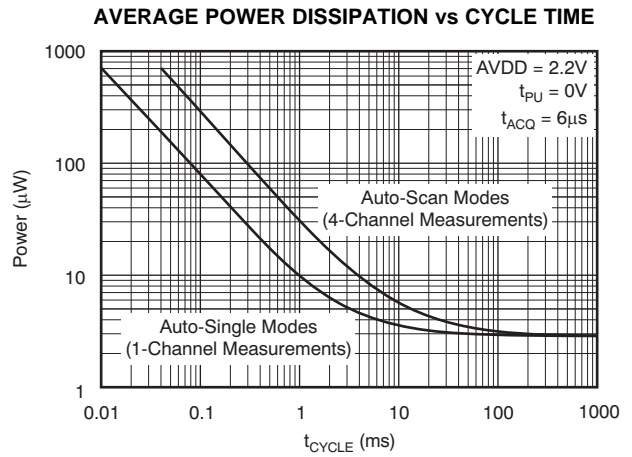
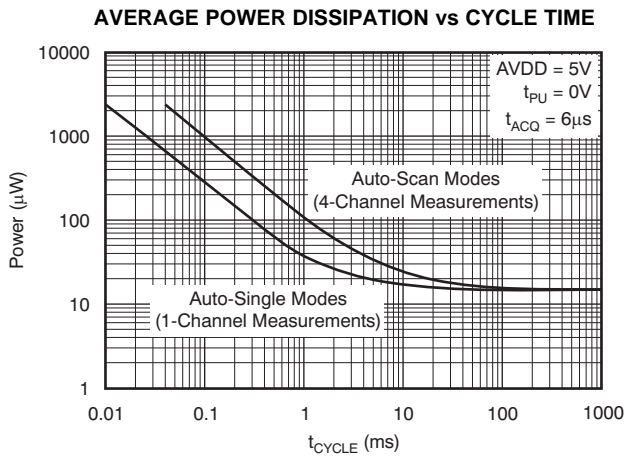

Figure 3.
Figure 4.
(2) Rate at which channels can be scanned. This is the minimum acquisition time (6 $\mu\text{s}$ ) and conversion time (4 $\mu\text{s}$ ).
(3) DVDD cannot exceed AVDD.
(4) See Figure 3 and Figure 4 for more information.